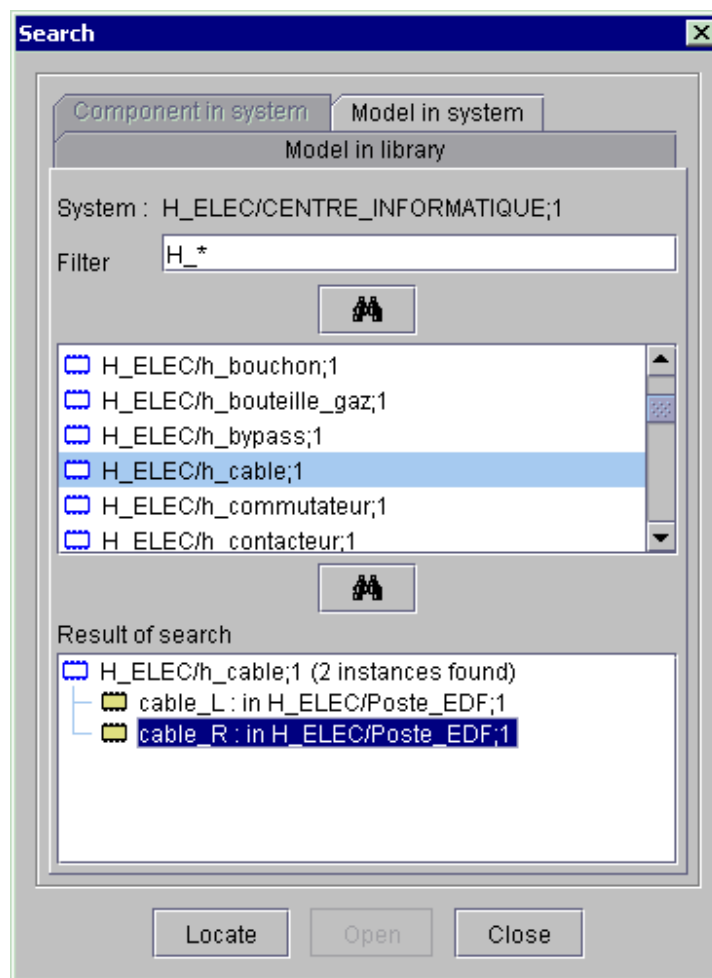

Figure 146 : Search window
- Use the **Edition – Search** menu or type the **CTRL + B** command on the keyboard or use the  icon in the *Standard* tool bar; the *Search* window (Figure 146) is displayed.